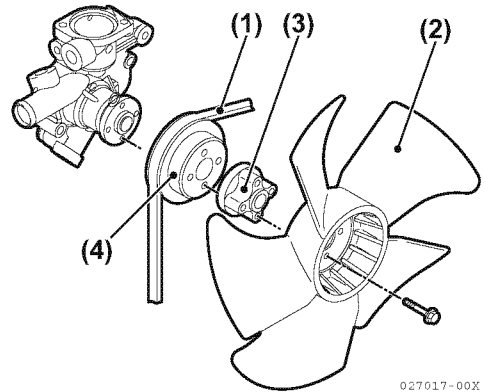

Figure 7-18
11. Reinstall the coolant pump V-pulley (**Figure 7-18, (4)**), spacer (**Figure 7-18, (3)**) (if equipped) and engine cooling fan (**Figure 7-18, (2)**).
12. Reinstall the cooling fan V-belt (**Figure 7-18, (1)**). Adjust as described in *Check and Adjust Cooling Fan V-Belt* on page 5-27.